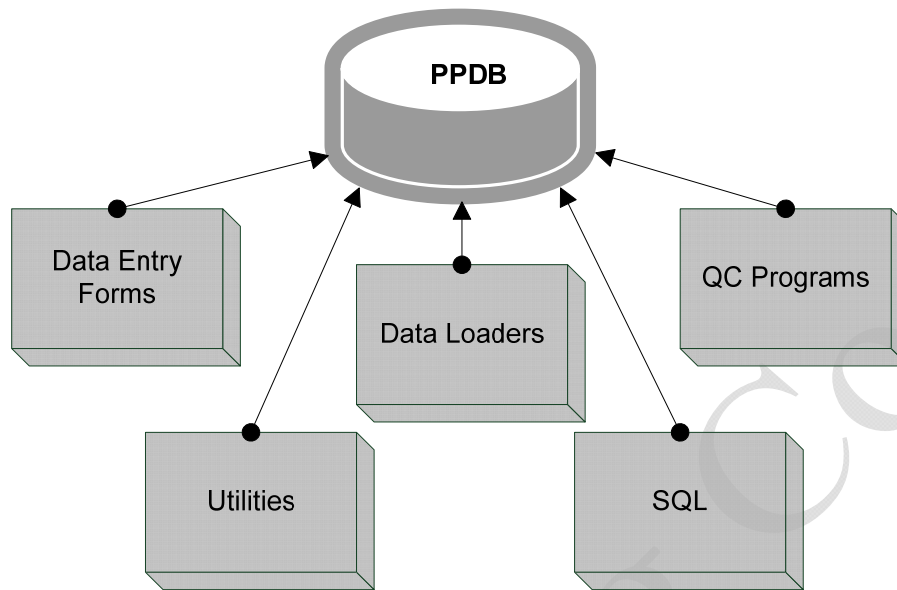

Figure 2. Schematic. LDEP Application provides access to PPDB.
The LTPP Data Entry Portal (LDEP) application includes data entry forms, data loaders, Quality Checks (QC) programs and utilities (see figure 2). This application is the user's interface with the regional data. The user can enter, review, edit and delete data from the database with this application. Data entry and revision to tables not supported by forms or loaders is done via SQL scripts.